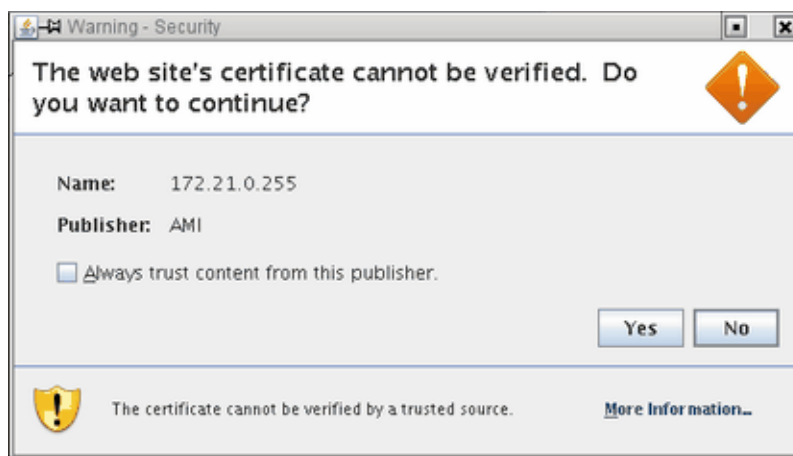

Figure 3-6 Web site Warning-Security Screen
9. You will then get a screen about **The web site's certificate cannot be verified. Do you want to continue?**, as shown in Figure 3-6 on page 47. Click the **Yes** button to continue. You can also click the checkbox to keep it from showing up later.